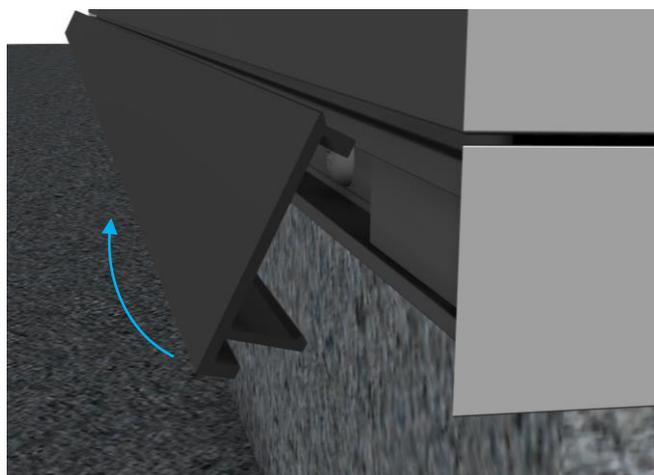

Figure 7 – Clip release direction
4. Remove the clip on covers around the lower perimeter of the rooflight. This is done by first pulling the bottom to release as shown in *Figure 7*.